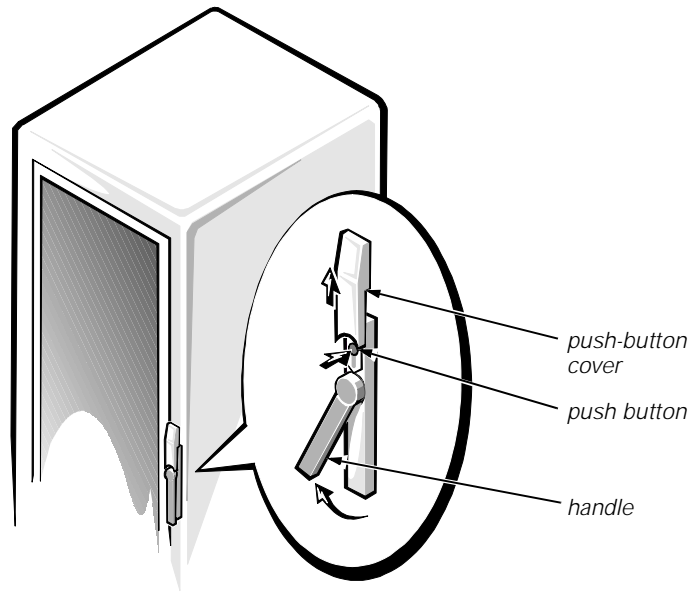

Figure 1-1. Opening the Latch on the Door
1. Open the latch on the front door (see Figure 1-1).
3. Close the door latch by rotating the handle counterclockwise until it stops, push the handle in until it locks in position, and then slide the push-button cover down over the push button (see Figure 1-1).